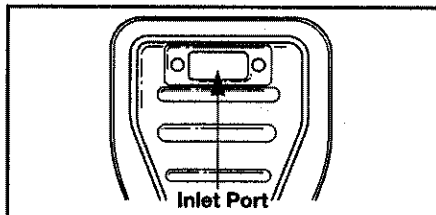

Fig. 29
3. Check the inlet port of the muffler and outlet port of the cylinder for excessive carbon deposits (Figs. 29 and 30). Clean or replace the muffler as required. If the outlet port of the cylinder is plugged, contact your authorized service dealer.